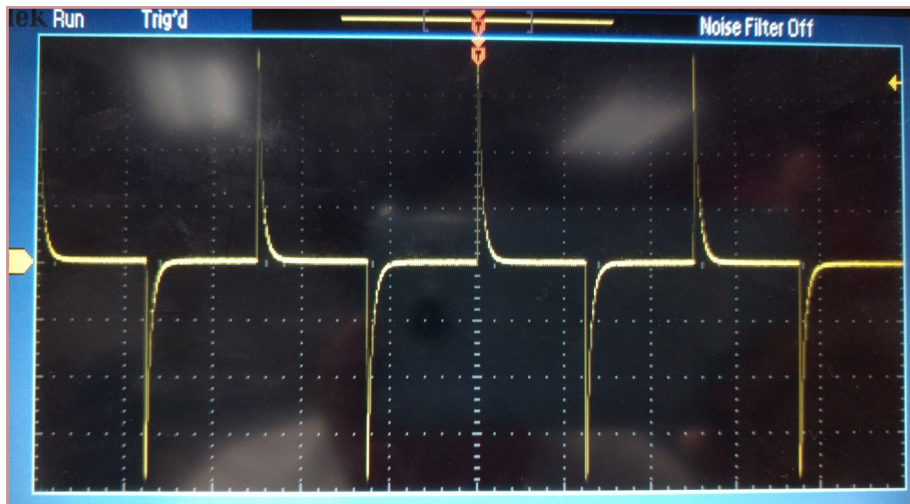

Figure 22. Output of differentiator circuit.
4. Disconnect the 50 ohm terminator and connect the differentiator circuit. Note that the output amplitude of the pulse should be around 70% of the reference value. Due to variations in components and test set-up you may be off by 10% or more. Note the rise time and pulse duration. An example of a differentiator circuit output is shown below in Fig. 22. **(Photos)**